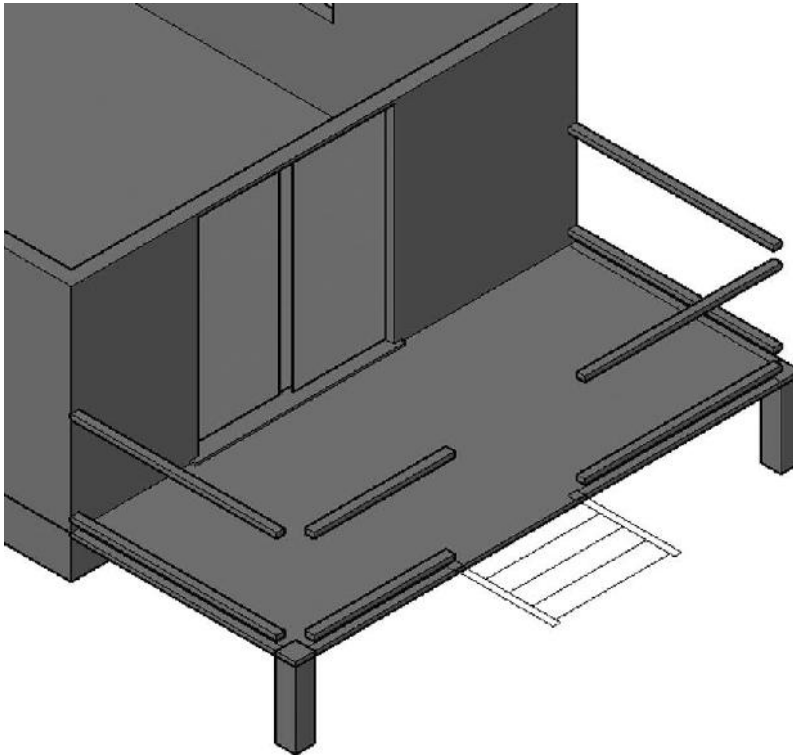

FIGURE 16.53: The railings in place and adjusted for size
11. Use the Zoom Previous command (**Z**, **↵**, **P**, **↵**) to return to the current view (see Figure 16.53).